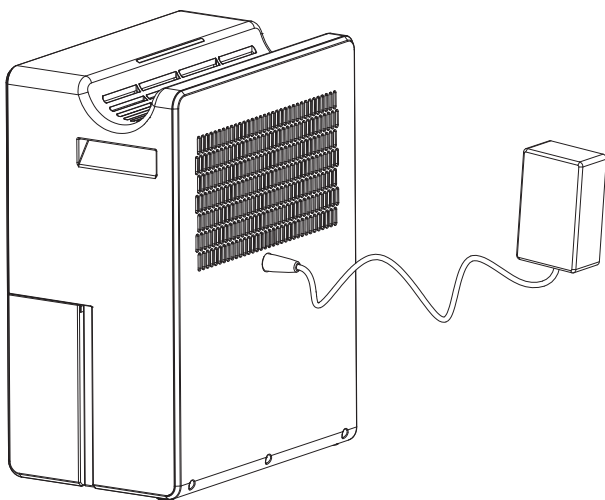

Figure 4
4. Insert the adapter into the rear port and connect it to a power supply (see Figure 4).